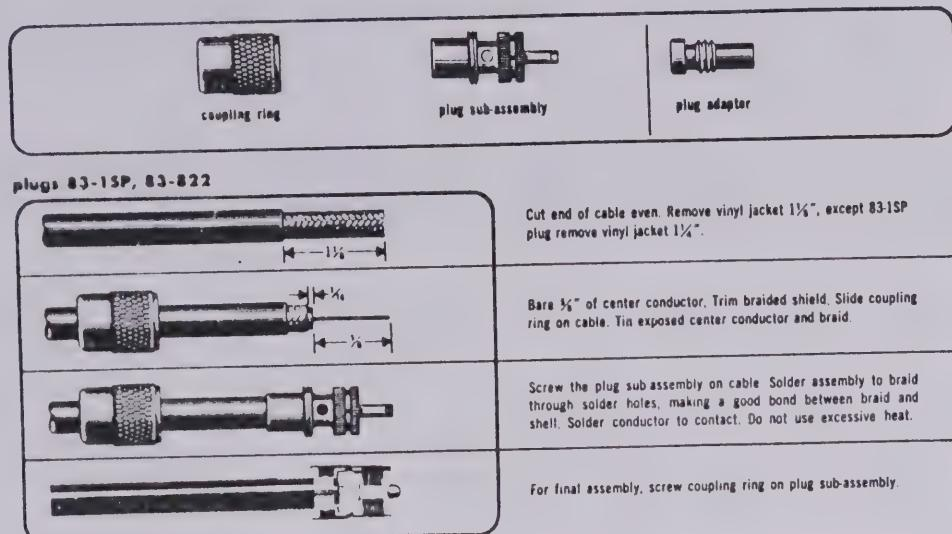

FIGURE 2. Assembly Instructions for a PL-259 Coax Connector.
**ANTENNA COAX** - Use only RG-8/U coax (or its equivalent) to connect the 2KD-5 to the antenna. A PL-259, UHF type, coax connector is included in the accessory kit. Prepare the cable and connector as described in Figure 2. The PL-259 mates with the jack marked OUTPUT on the rear panel of the amplifier.